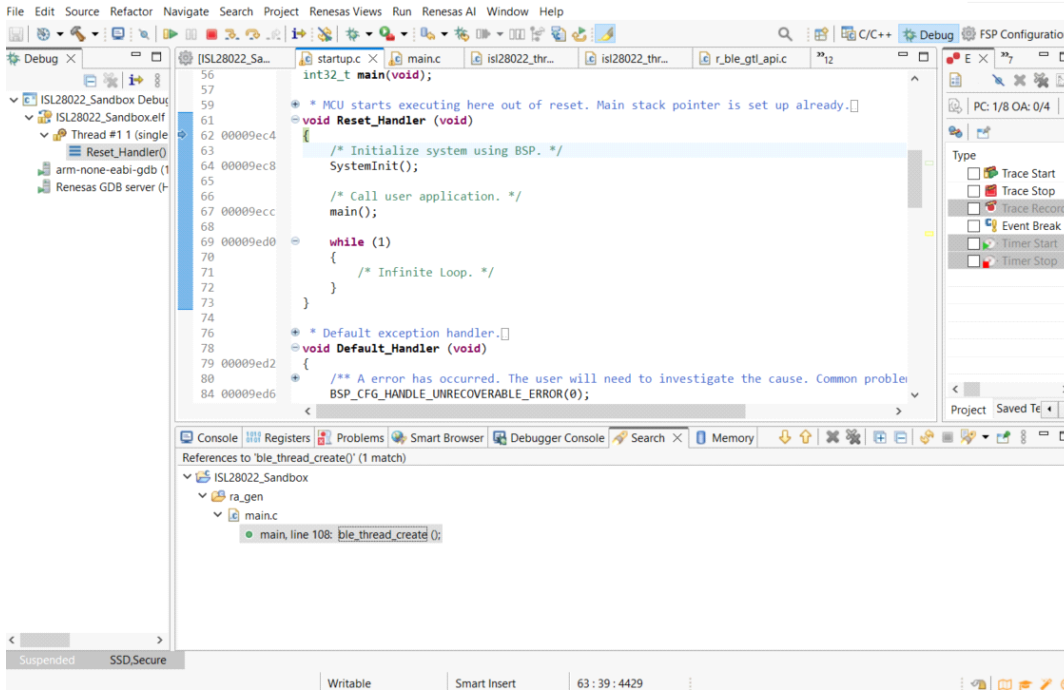

Figure 24. Entering Debug Mode
4. Click the **Debug** button. The code enters debug mode (see Figure 24).